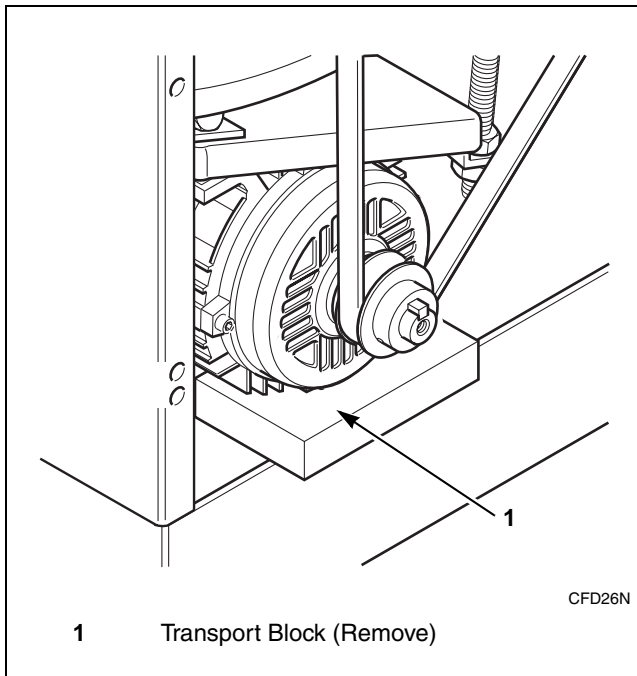

Figure 4
3. At rear of machine, lift at bottom of motor and remove transport block if present. Refer to *Figure 4*.